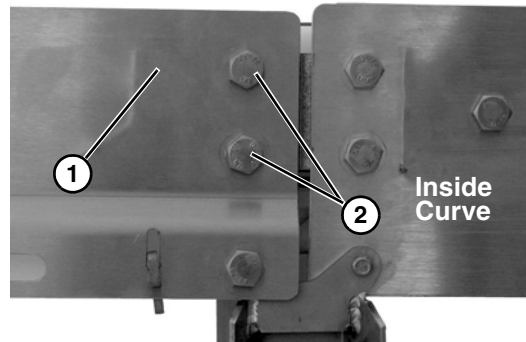

Figure 16
4. Secure straight section (Figure 16, item 1) onto curved section with two hex head bolts (Figure 16, item 2) with bolt heads to the outside as shown.